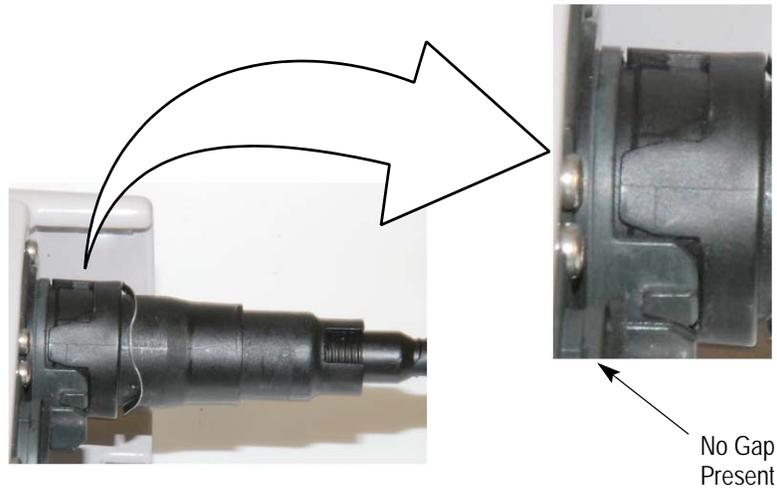

Figure 11
5. Make sure that no gap is present between the inner housing and mounting flange. See Figure 11.